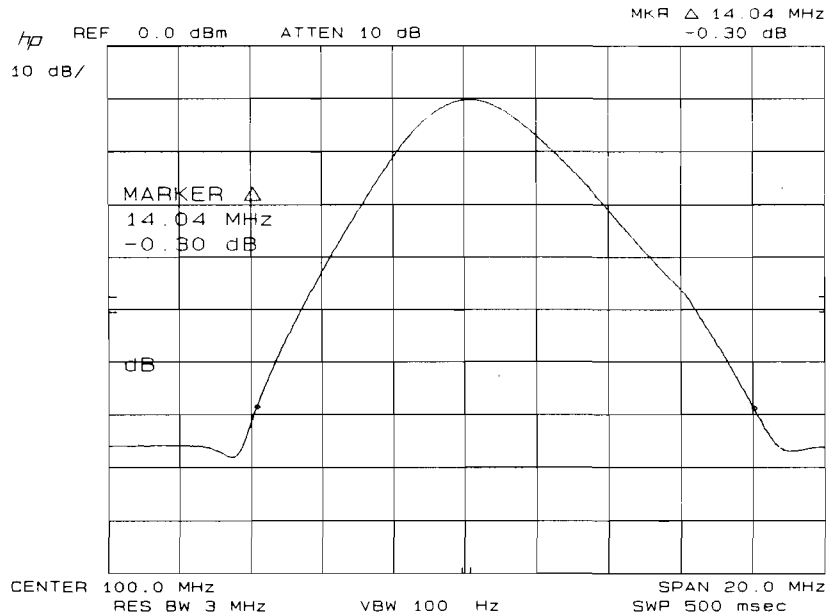

Figure 4-5. 60 dB Bandwidth Measurement
3. On the spectrum analyzer, press **MARKER** **NORMAL** and position the marker at the peak of the signal trace using the DATA knob. Press **MARKER** **Δ** and position the movable marker 60 dB down from the stationary marker on the positive going edge of the signal trace (the **MARKER** **Δ** amplitude readout should be -60.00 dB ±1.00 dB). It may be necessary to press **SWEEP** **CONT** and to adjust **CENTER FREQUENCY** so that both 60 dB points are displayed (see Figure 4-5).
5. Read the 60 dB bandwidth for the 3 MHz resolution bandwidth setting from the MARKER Δ frequency readout (see Figure 4-5) and record the value in Table 4-5.